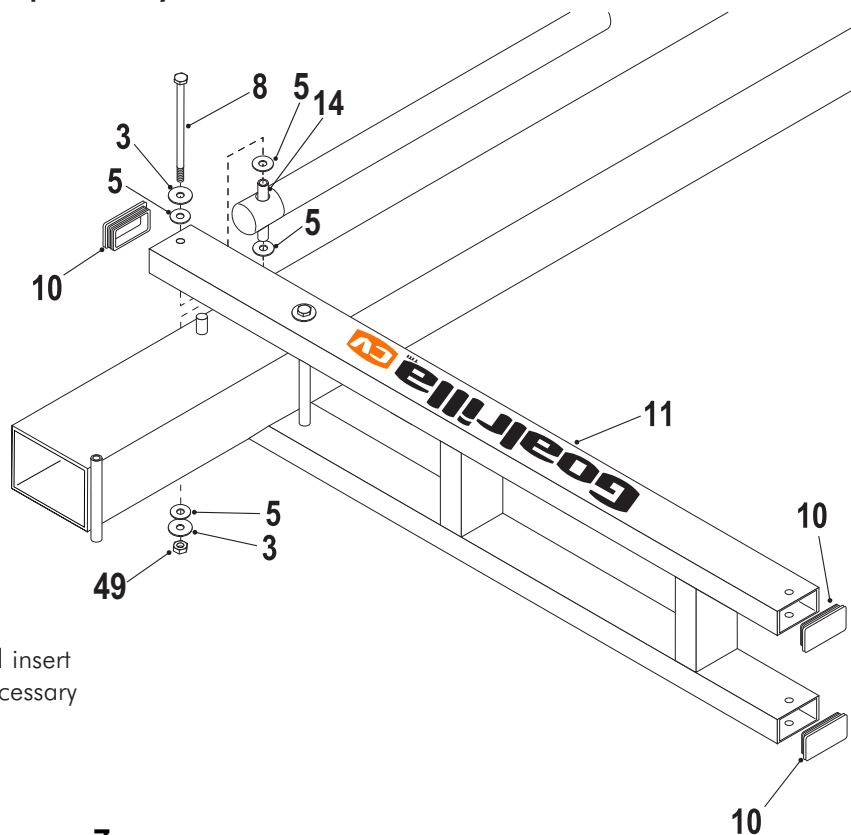

Figure 6
5. Secure Actuator (#16) to Lower Arm (#11) using one bolt (#8), two flatwashers (#3), four plastic washers (#5) and one thin locknut (#49). See Figure 6. Tighten both bolts (#8) **snug but, do not over tighten. Board Arms must pivot freely.**